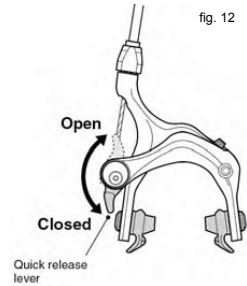

fig. 12
- (1) If your bike has rim brakes, disengage the brake's quick-release mechanism to increase the clearance between the tire and the brake pads (See Section 4.C figs. 12 through 13).
- (1) Shift the rear derailleur to high gear (the smallest, outermost rear sprocket).
- (2) If your bike has rim brakes, disengage the brake's quick-release mechanism to increase the clearance between the wheel rim and the brake pads (see Section 4.C, figs. 12 through 13).
- (3) Pull the derailleur body back with your right hand.
(1) If your bike has rim brakes, disengage the brake's quick-release mechanism to increase the clearance between the tire and the brake pads (see Section 4.C, figs.12 through 13).
(2) Using a correct size wrench, loosen the two axle nuts.
(3) If your front fork has a clip-on type secondary retention device, disengage it and go to the next step. If your front fork has an integral secondary retention device, loosen the axle nuts enough to allow wheel removal, then go to the next step.
(4) Raise the front wheel a few inches off the ground and tap the top of the wheel with the palm of your hand to knock the wheel out of the fork ends.
(1) If your bike has rim brakes, disengage the brake's quick-release mechanism to open the clearance between the tire and the brake pads (see Section 4.C, figs. 12 through 13).
(2) Shift the rear derailleur to high gear (the smallest rear sprocket) and pull the derailleur body back with your right hand.
(3) Using the correct size wrench, loosen the two axle nuts.
(4) Lift the rear wheel off the ground a few inches and, with the derailleur still pulled back, push the wheel forward and down until it comes out of the rear dropouts.
Most brakes have some form of quick-release mechanism to allow the brake to open and close. When quick-release mechanism is in the open position brakes are inoperable. Ask a bicycle specialist to make sure that you understand the way the brake quick release works on your bike (see figs. 12, 13) and check each time to make sure both brakes work correctly before you get on the bike.